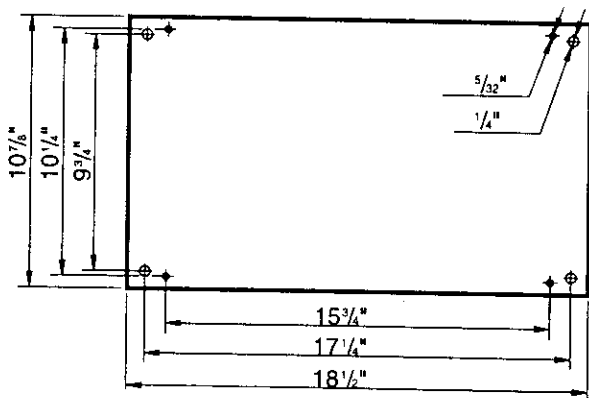

Figure 3 - Installing Jointer/Planer
- The $\frac{1}{4}$ " holes (see Figure 3) are intended for installing jointer/planer using bolts, lock washers and hex nuts.
- The $\frac{5}{32}$ " holes (see Figure 3) are intended for installing jointer/planer using wood screws.